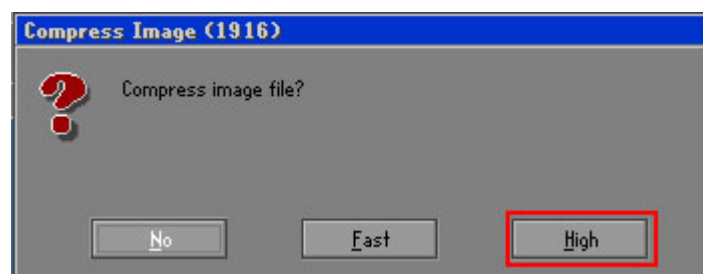

Figure B-14: Compress Image
Step 8: When the Compress Image screen in **Figure B-14** prompts, click **High** to make the image file smaller.